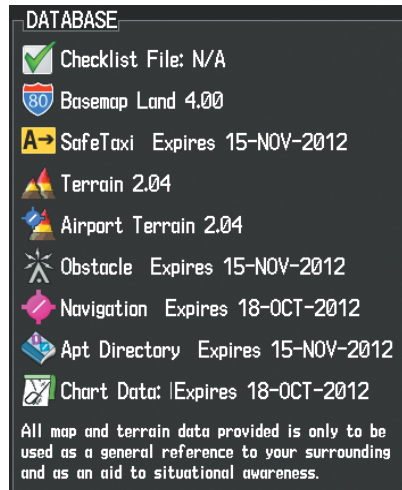

Figure B-10 Database Information on the Power-up Screen
- 4) Apply power to the system, check that the databases are initialized and displayed on the power-up screen (Figure B-10). When updating the terrain and FliteCharts databases, a 'Verifying' message may be seen. If this message is present, wait for the system to finish loading before proceeding to step 5.